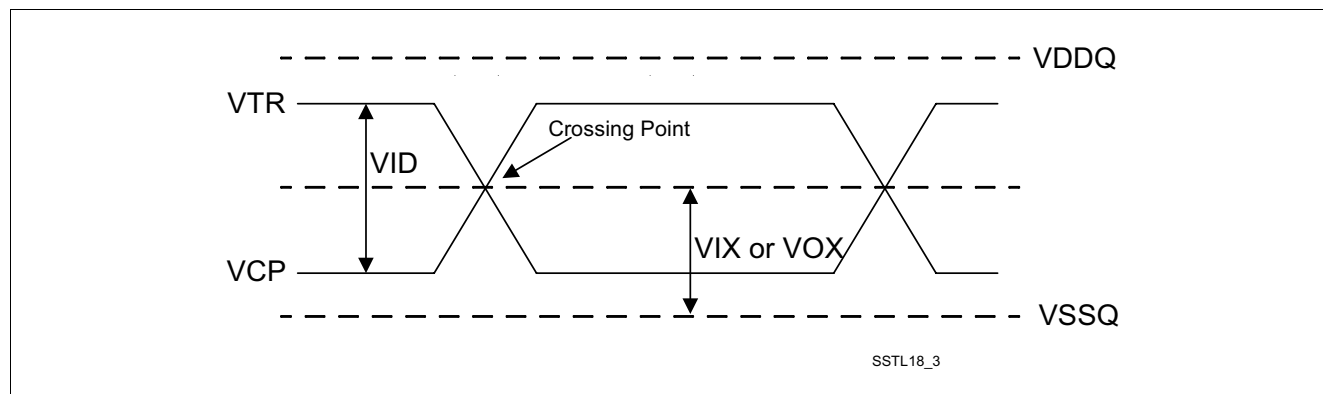

**Figure 64 Single-ended AC Input Test Conditions Diagram**
- 2) The input signal minimum Slew Rate is to be maintained over the range from  $V_{\text{IH(ac).MIN}}$  to  $V_{\text{REF}}$  for rising edges and the range from  $V_{\text{REF}}$  to  $V_{\text{IL(ac).MAX}}$  for falling edges as shown in Figure 64